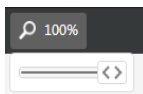

Figure 2.4 Zoom icon slider
2. Move the slider (Figure 2.4) left to decrease the size of text and icons, or right to increase the size of text and cons.